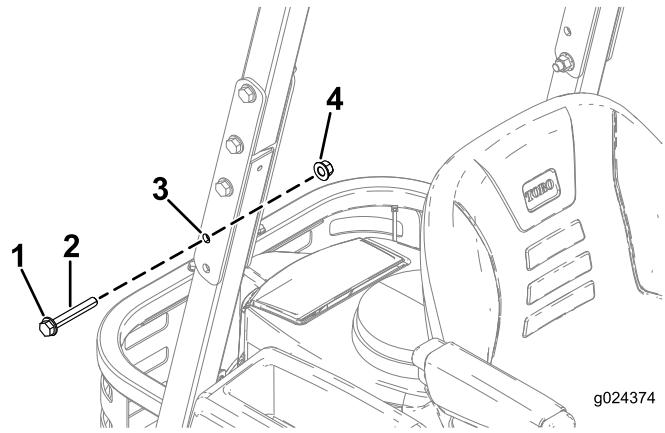

Figure 4
4. Remove the bolts (1/2 x 3 inches), washers, and nuts from the fourth hole in the ROPS plate (Figure 4).